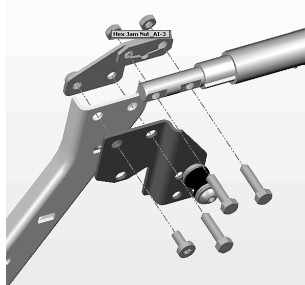

Figure 5
- For Detachable Backrest: Using the 5/16" x 1" hex bolt saved from step 5 and a 5/16" x 3/4" Torx bolt removed in step 6; attach the detachable backrest mount plate [16] to the saddlebag support arm [11] and the strut support bracket [8] as shown in Figure 5.